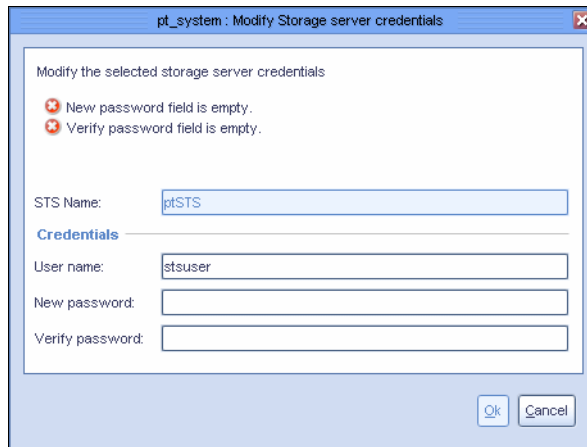

Figure 9-8 Modify Storage server credentials window
- Click **Ok** to complete the task. (Figure 9-8).